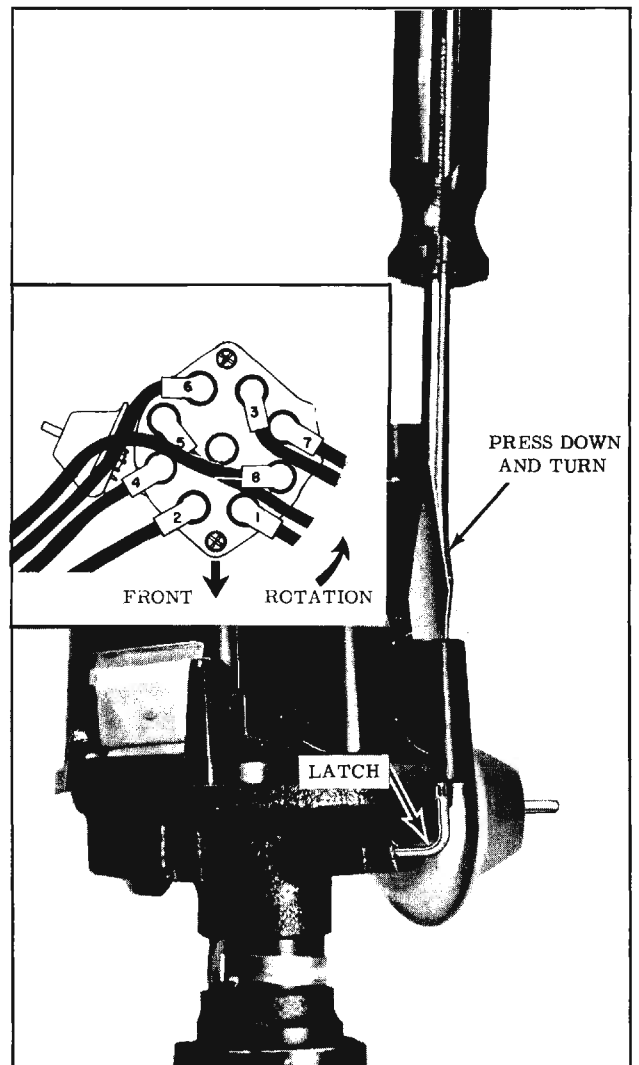

Fig. 14-44 Removing Distributor Cap
2. Remove distributor cap as shown in Fig. 14-44.
NOTE: If necessary to remove secondary wires from cap, mark position on cap tower for lead to No. 1 cylinder. This will aid in reinstallation of leads. (Inset Fig. 14-44)